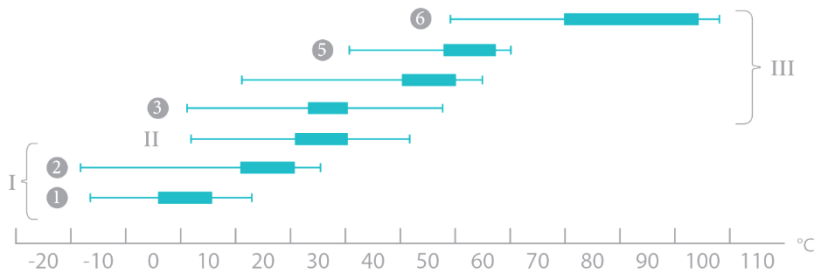

Figure 4. Temperature boarders and optimal growth zones of prokaryotes and their classification.
8.1. Temperature distribution specifics (psychrophiles, mesophiles, thermophiles). The optimal growth temperatures of microorganisms are divided in three principal groups (see fig. 4):
- Psychrophiles (I) – obligate (1) and facultative (2);
- Mesophiles (II);
- Thermophiles (III) – thermotolerant (3), facultative (4), obligate (5) and extremophile (6).